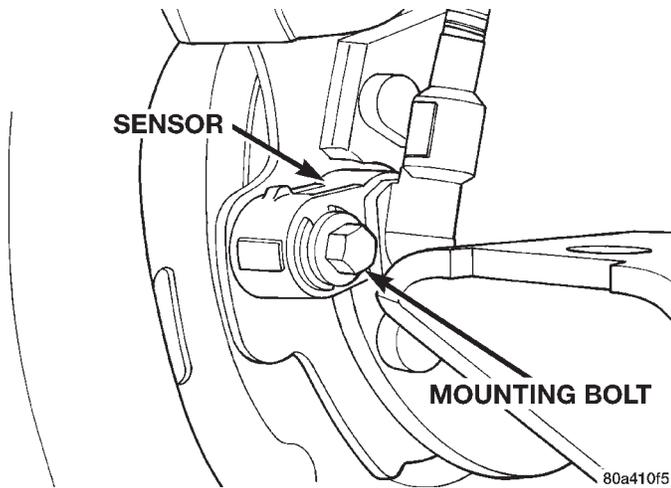

Fig. 10 Sensor Mounting Bolt
- (6) Disengage sensor wire from axle and chassis brackets and from brake line retainers.
- (7) Remove bolt attaching sensor to splash shield bracket (Fig. 10).
- (8) Remove sensor from splash shield bracket.